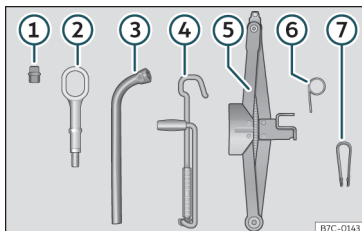

Fig. 58 Underneath the floor panel of the luggage compartment: on-board tools.
- Fit the plastic clip (vehicle tools >>> **Fig. 58** ⑦) over the cap until it clicks into place >>> **Fig. 59**.